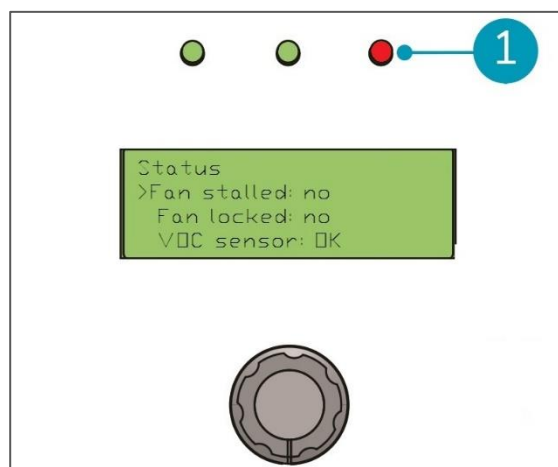

Figure 16
NOTE: When the LED indicator on the right side (Figure 16, pos. 1) lights red an error in the system has occurred. Go to the Status menu to determine the nature of the error.